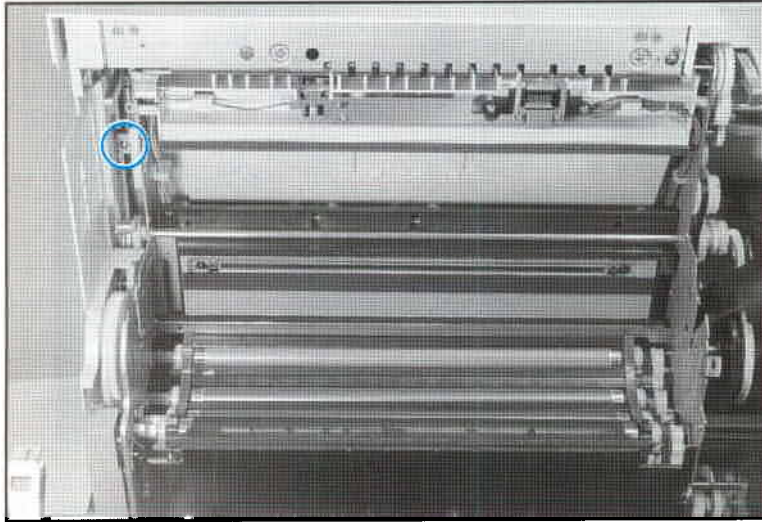

Figure 6-11      Top Cover Screw (1)
3. Remove (1) screw shown in Figure 6-11 .